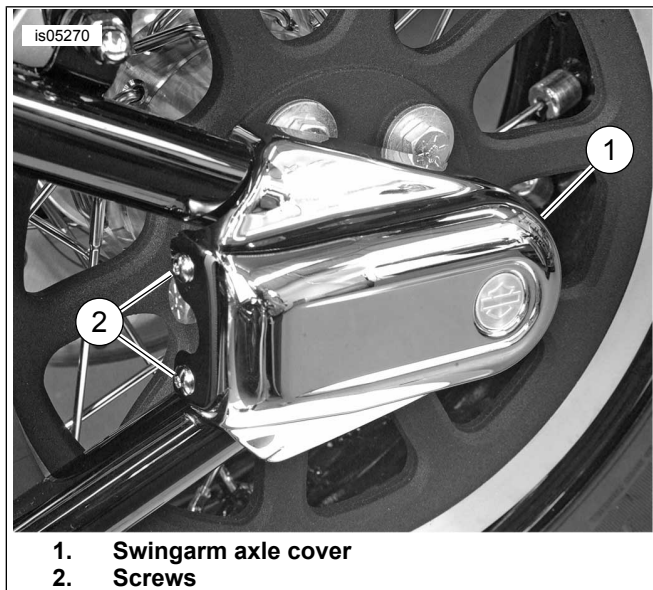

Figure 2. Install Cover
1. See Figure 2. Place left cover (1) over mounting bracket tabs on left side of vehicle. While holding cover in place, insert one screw (2) included with kit into each of three holes in cover and bracket. Tighten securely with a hex wrench.